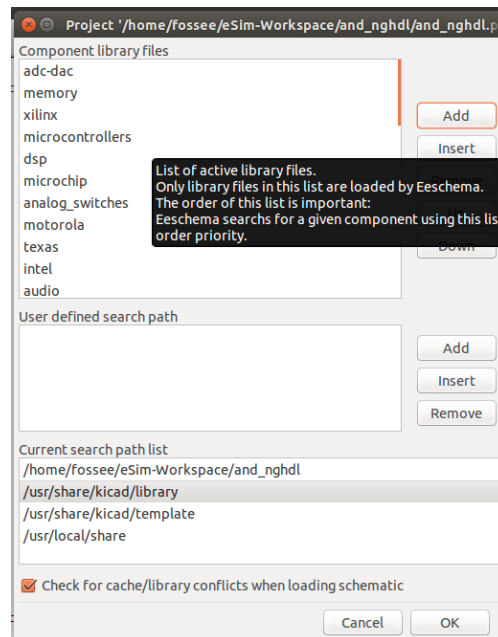
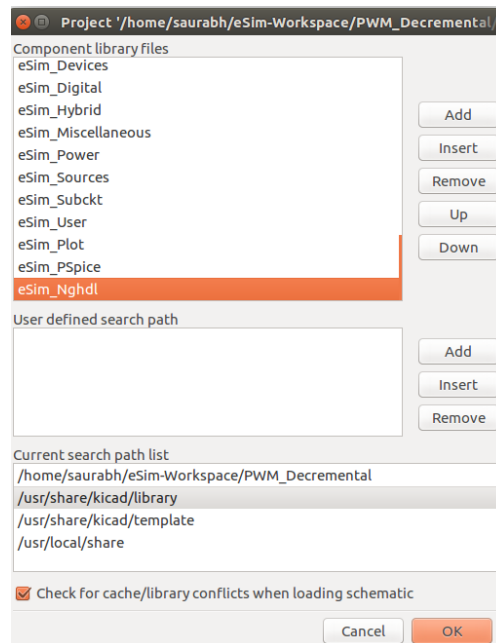

Figure 9.6: Adding the digital model library in KiCad
Figure 9.7: Selection of library
2. After successful upload of the model using the VHDL code, you can create the schematic of your design by clicking on **Open Schematic** button on the left pane of the eSim window. Then go to **Preferences** option on top of the schematic editor window and click on **Component Libraries** to add the library eSim_Nghdl.lib in KiCad. Following window will appear as shown in Fig. 9.6, where you will have to
click on *Add* button and select the eSim.Nghdl library. Refer Fig. 9.6 and Fig. 9.7.